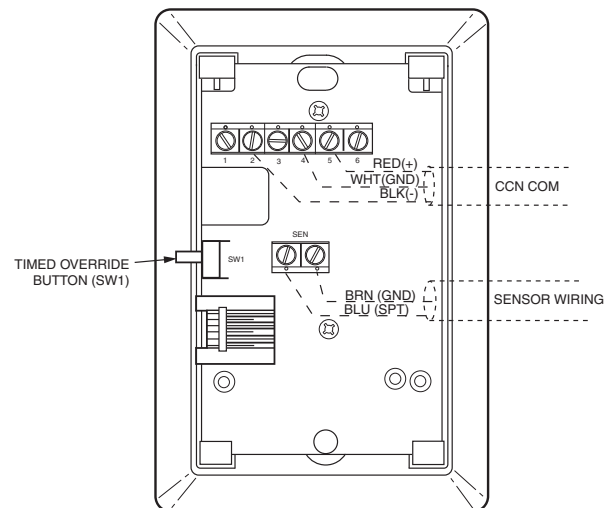

Fig. 9 — Space Temperature Sensor Typical Wiring (33ZCT55SPT)
- Space temperature sensor (33ZCT55SPT) with timed override button (see Fig. 9)